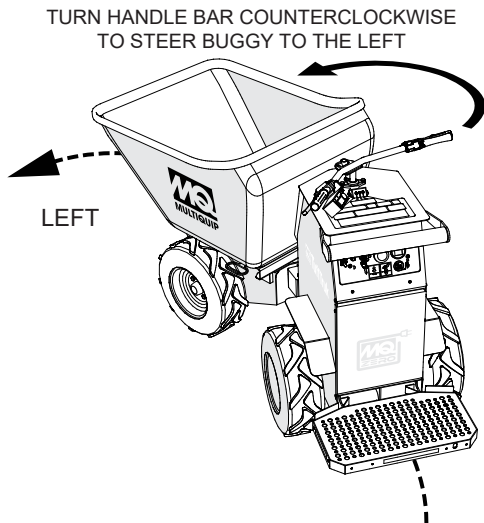

Figure 14. Steering the Buggy (CCW-Left)
1. To turn left (Figure 14) when traveling in the forward direction, turn the handle bar counterclockwise.